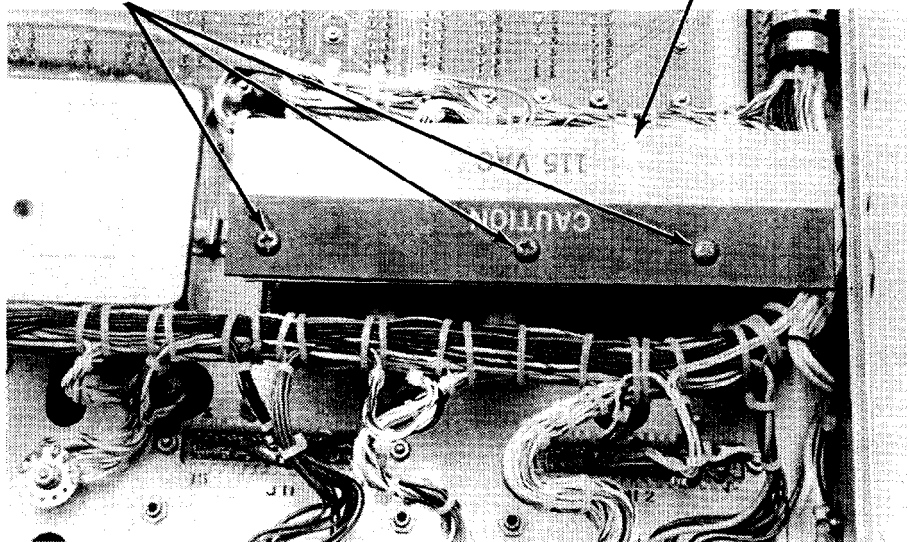

FIGURE 5
2. Remove three relay bracket cover mounting screws and relay bracket cover, Figure 5.